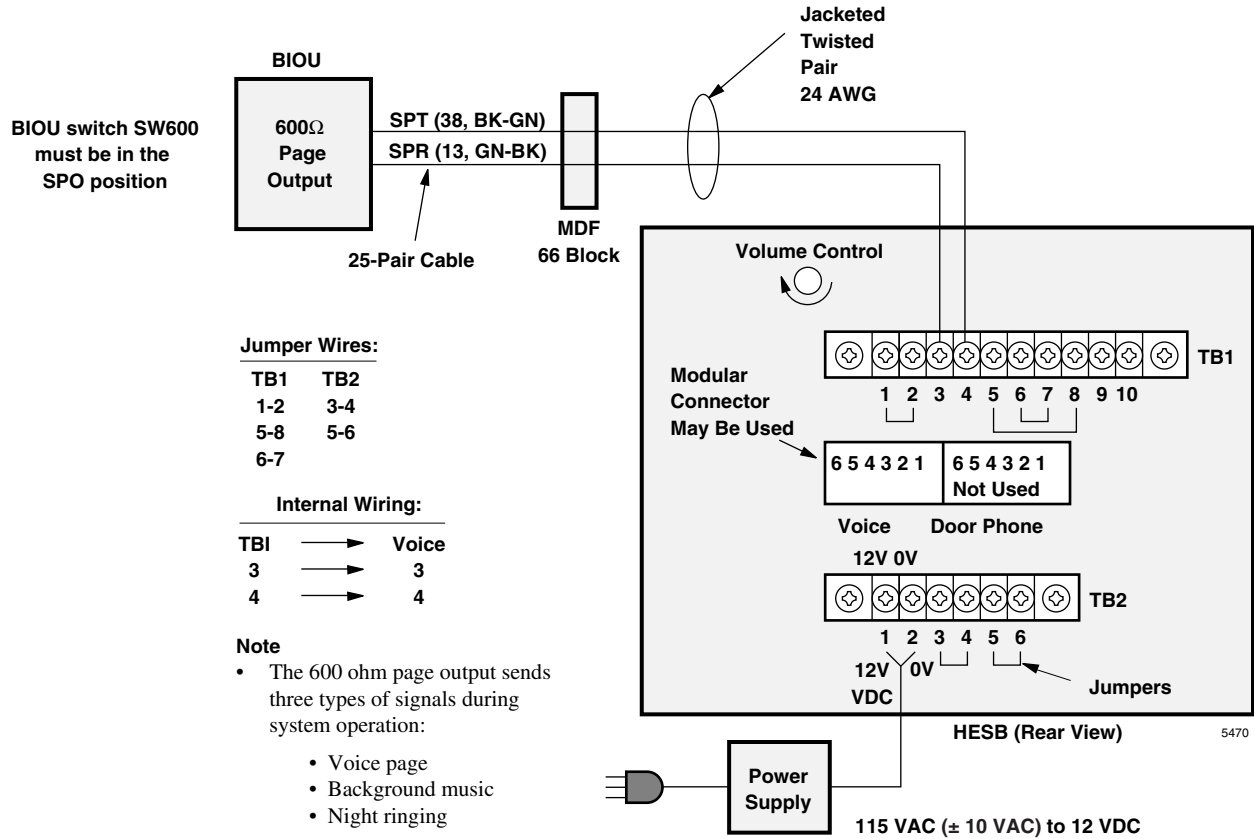

Figure 12-22 Amplified Page Speaker with HESB Interface
1. Connect a jumper between terminals 1 and 2 of the HESB TB1 terminal block (see Figure 12-22).